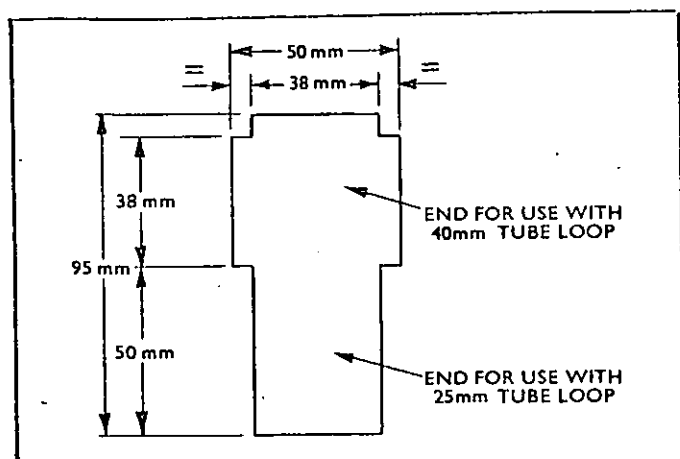

Fig. 9
- 11.4 Slacken eight flange screws (W), insert blanking plates, fig. 9 between tube flange and 'O' ring carrier and tighten flange screws.